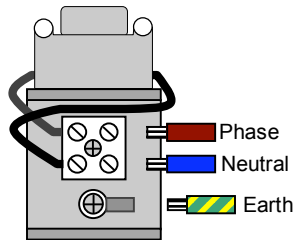

Fig 1.0 Rear
3. The C-Block is fitted with a ceramic terminal block for the connection of the phase (brown) and neutral (blue) wires. They should be fitted as shown in fig.1.0.